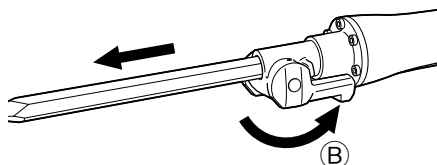

Fig. 6
(3) Clamp the accessory into place by bringing the retainer to clamp position (B). To make sure that the accessory is properly mounted, pull on the accessory (Fig. 6).